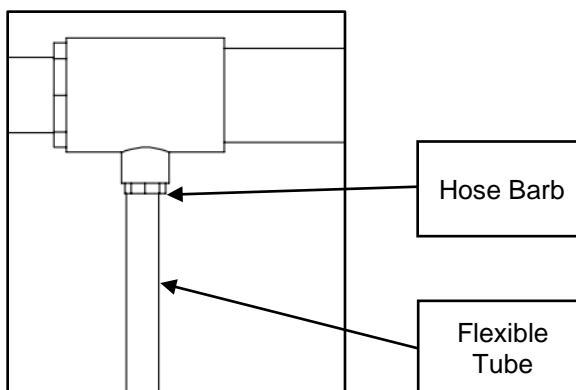

Figure 25. Removing Plug in Tee and Attaching Hose Barb/Flexible Tubing
11. Ensure there is no water in the overhead tank and remove the 1/2" NPT plug in the tee from the Shower Piping Assembly directly above the Eye/Face Wash Assembly. Reference Figure 25.